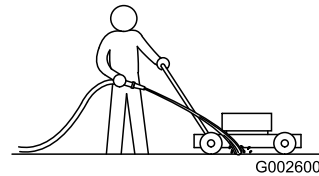

Figure 54
2. With the engine running and the blade engaged, spray a stream of water in front of the **right** rear wheel (Figure 54).